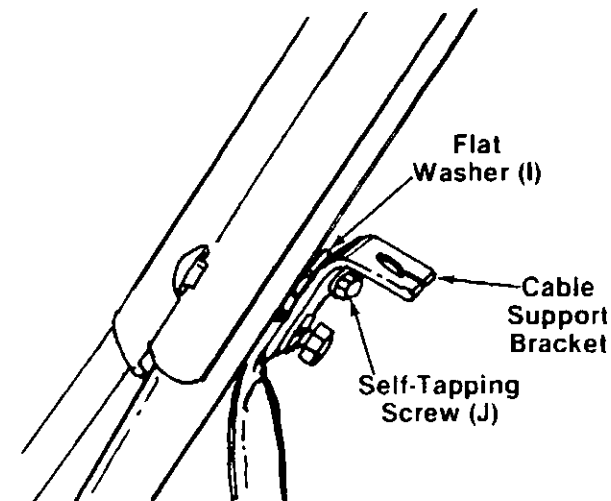

FIGURE 12.
13. Place flat washer (I) between handle and upper hole on cable support bracket. Secure with self-tapping screw (J). See figure 12.